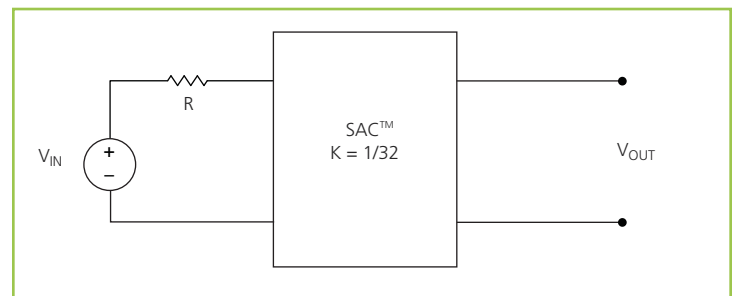

Figure 15 – $K = 1/32$ Sine Amplitude Converter with series input resistor
interesting attributes. Assuming that $R_{OUT} = 0 \Omega$ and $I_Q = 0 A$, Eq. (3) now becomes Eq. (1) and is essentially load independent, resistor R is now placed in series with V_{IN} as shown in Figure 15.
Assuming that $R = 1 \Omega$, the effective R as seen from the secondary side is $0.98 m\Omega$, with $K = 1/32$ as shown in Figure 15.